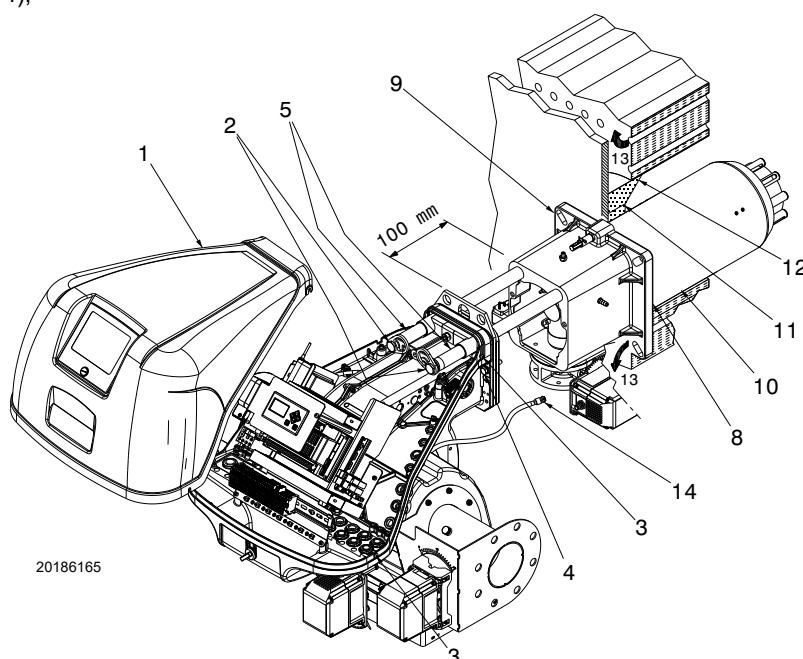

Fig. 15
For boilers with front flue passes 13)(Fig. 15 on page 17), or flame inversion chambers, a protection in refractory material 11) must be inserted between the boiler refractory 12) and the blast tube 10).
This protection must not compromise the extraction of the blast tube. For boilers with a water-cooled frontal, a refractory cover is not necessary 11)-12)(Fig. 15), unless expressly requested by the boiler manufacturer.
Separate the combustion head from the rest of the burner, as in Fig. 15; proceed as follows:
- reassemble the burner on the guides 3) at about 100 mm from the pipe coupling 4) - burner in the position shown in Fig. 15;
- connect the plug of the servomotor 14)(Fig. 15);